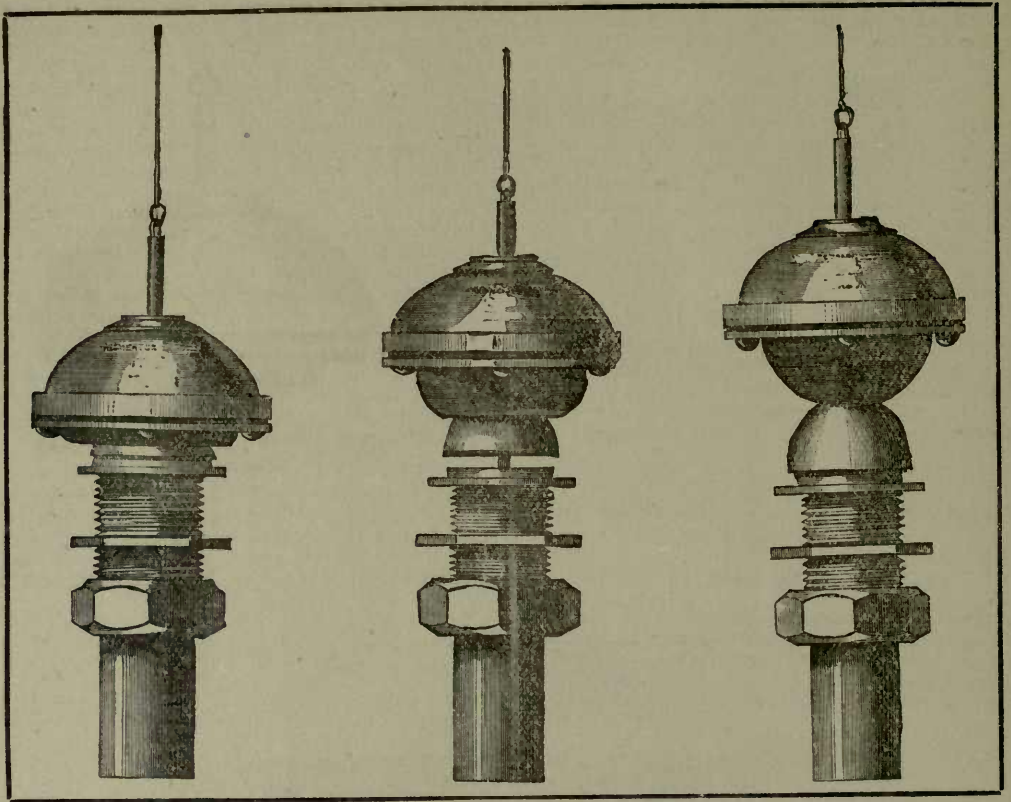
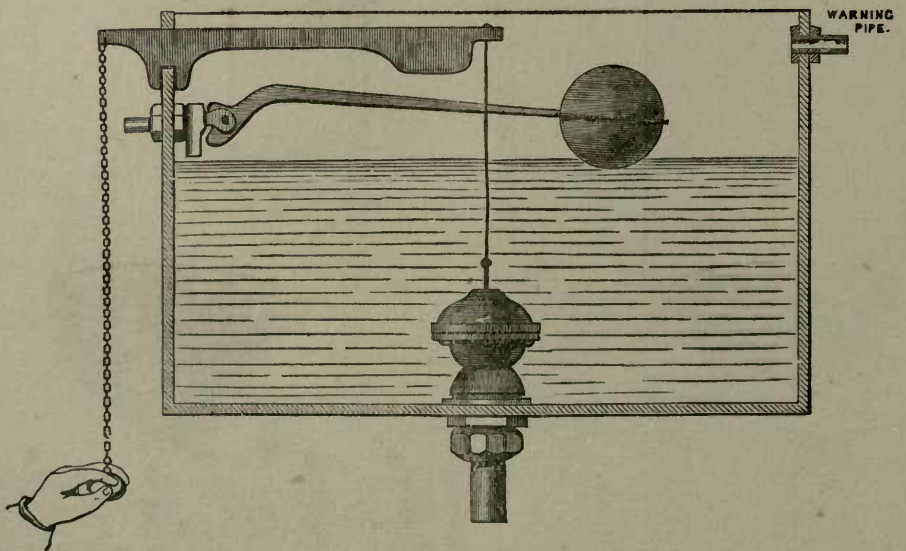

FIG. 614.
FIG. 615.
the seating to be soldered to the bottom of the cistern, and over the down-pipe I, or this may be connected by nut and screw to the cistern. M is the pull-up spindle for attaching the copper wire, D (which may be made to work through a stuffing box at P), the spindle for actuating the flexible diaphragm C. This diaphragm is fixed at H to the ring P, which is also connected to the valve-plate B. At B is a small regulating hole, for the purpose of allowing the descent of the valve when the spindle is being held up. The action is, that on pulling up the spindle D, it brings up the flexible diaphragm, and, with it, the outlet valve A; but as the top Q limits the amount of lift to both diaphragm and valve, the flexibility of the diaphragm, and a small water passage being established at B into the space between the diaphragm and the bottom plate, it allows the valve to descend slowly, and so cuts off the water from above and below the valve-seating. This valve has been made to work under the closet seat, and is done by making the casing Q watertight with a stuffing-box, and by cutting a thread either at J or any other part of the valve-casing. Of course, in this latter case, the spindle M is best worked with a lever. [Also see Fig. 614.]
**Cupped Diaphragm Valve. [Fig. 614.]**
On the left hand side is the valve at rest, and is, as can be seen, a flexible cup attached to a weight. At the bottom of this flexible cup there is a valve covering a seating leading to W.C. Pull up the wire at top of weight, and this brings the cup and valve suddenly off its seating, as shown by the middle figure. But as the cup is hollow and flexible, having a small hole for a water passage, the weight of the valve causes it to slowly fall, as shown on the right hand side, thereby closing the valve to W.C., as shown at Fig. 614. Fig. 615 is the same valve fixed in a small cistern, with ball valve, lever and warning pipe complete.